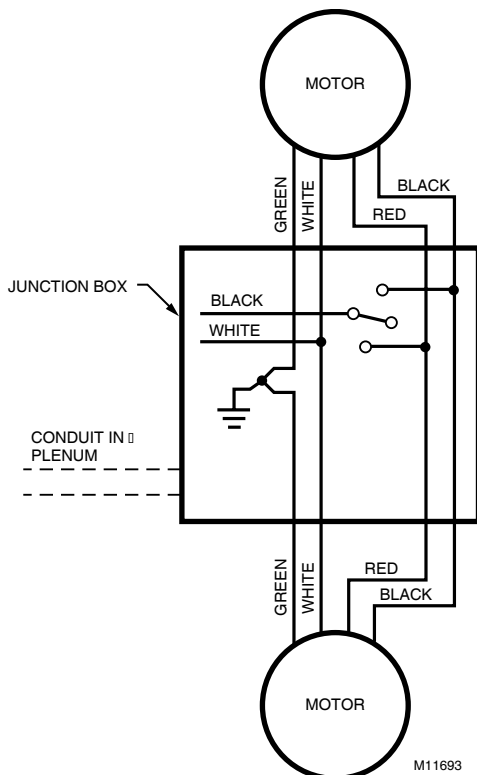

Fig. 4. F114 Media Air Cleaner (120, 60 Hz) typical wiring diagram.
7. Connect the power. See Fig. 4 and 5.